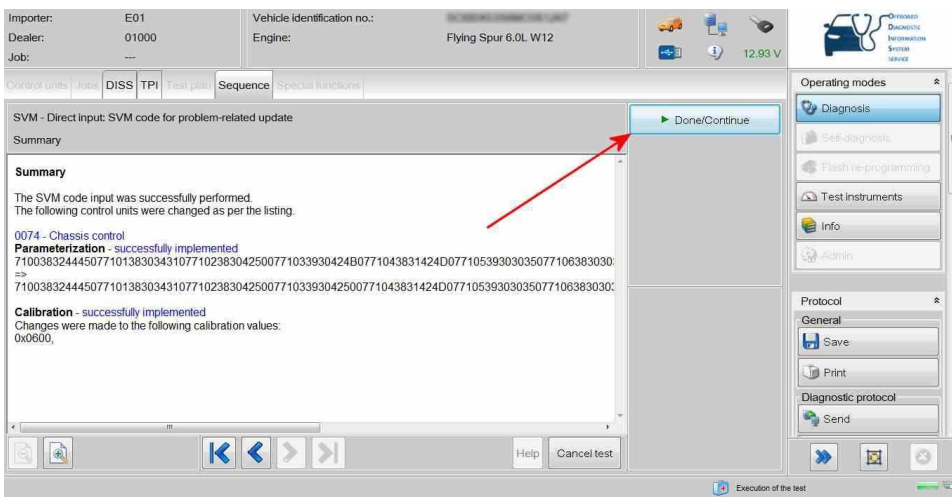

Figure 7
6) Once at Figure 7 - Select - Done/Continue then follow all on screen prompts